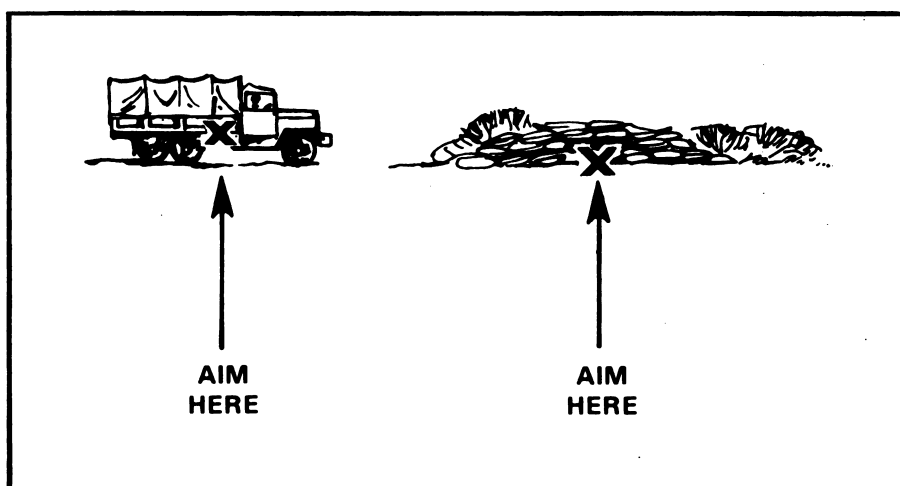

Figure 2. Aiming point for point-type stationary targets.
(1) Locating the range mark on the vertical range line corresponding to the estimated range.
(2) Placing that point on the center of target mass (fig. 2).
(3) Fire.